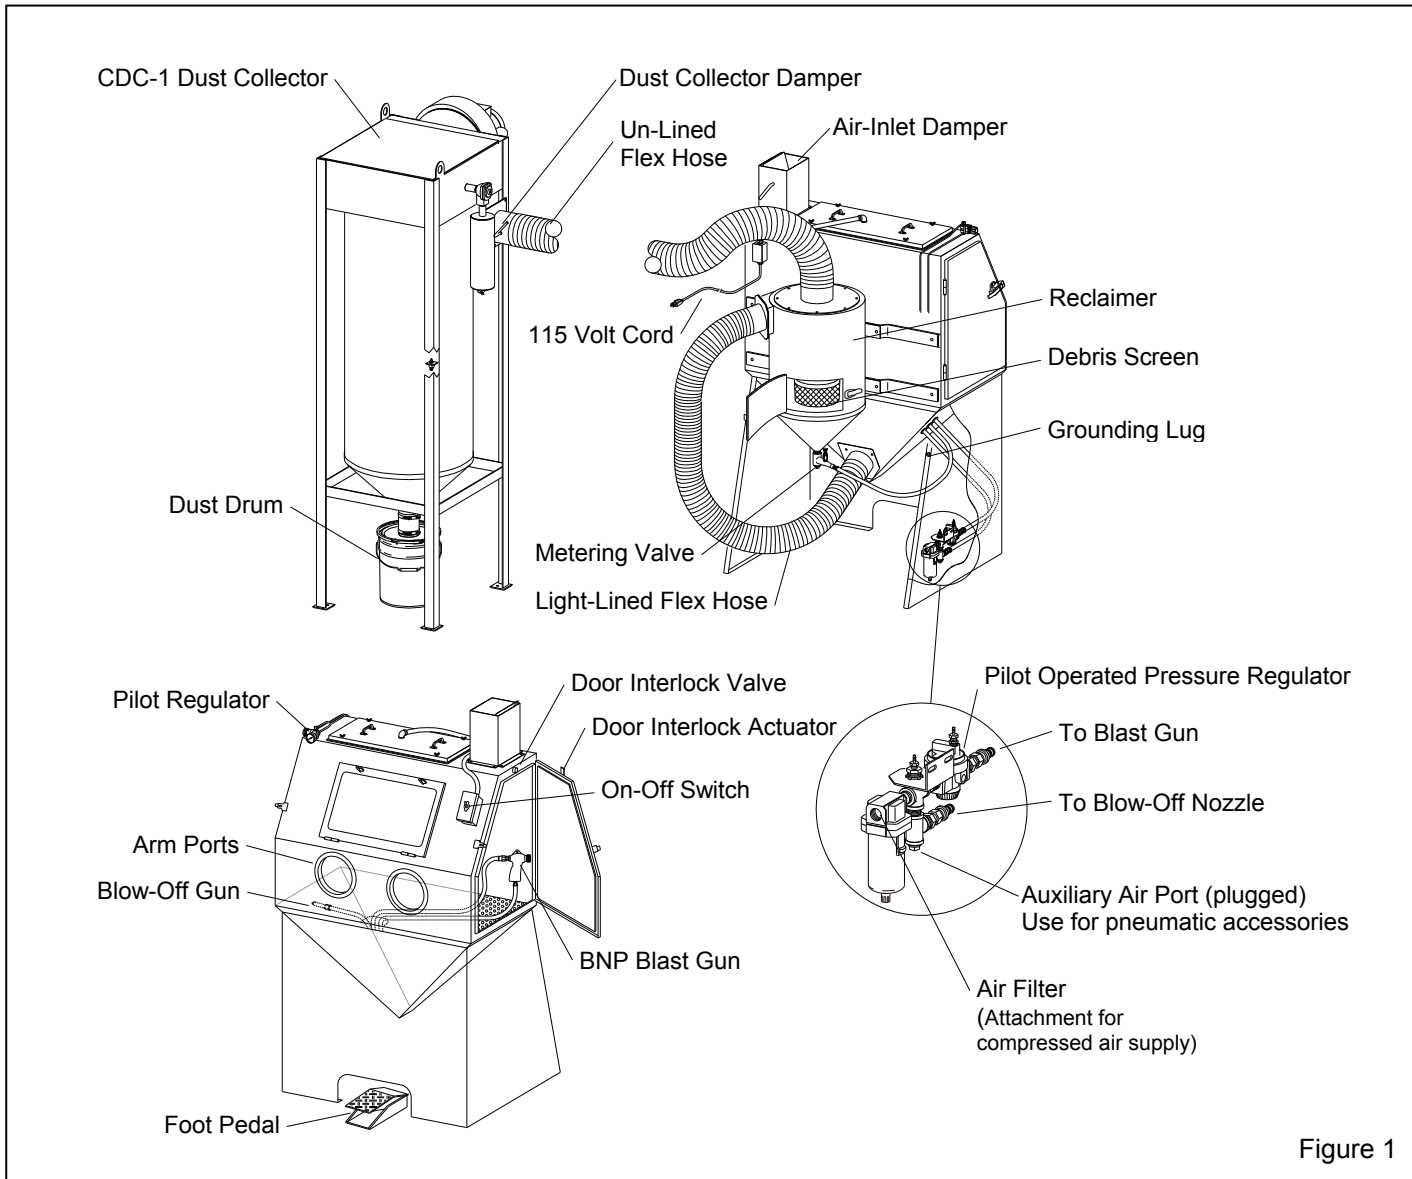
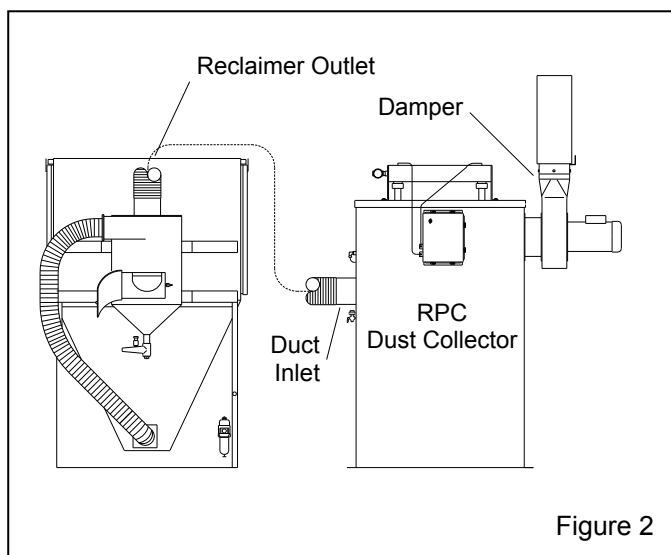

Figure 1
Figure 2
Refer to Figure 1 for arrangement of components with a CDC-1 dust collector. Figure 2 shows the arrangement with a RPC-2 600 cfm (not available in 300 cfm) reverse-pulse dust collector with dust drawer. The optional RPH-2 (600 cfm) is set up the same way as the RPC, but includes a hopper for additional dust storage, and empties into a drum. The overall height of the RPH is approximately 10-feet, 6-inches, and 12-ft when the top access door is open. An upgraded, RPC or RPH collector may be added at any time
1.5.1 CDC-1 Dust Collectors: Shown in Figure 1, the collector is available in 300 and 600 models. The single filter cartridge is cleaned by using a manually-controlled pulse of compressed air. CDC-1 dust collectors are standard with BNP cabinets unless an optional RPC-2 or RPH dust collector is ordered at time of purchase. Refer to manual number 28225 for operation of the CDC-1 dust collector.
1.5.2 RPC-2 Dust Collectors: Shown in Figure 2, this collector is available in a 600 cfm model. Dual filter cartridges are automatically cleaned by a timed, periodic pulse of compressed air. Dust collects in the draw and must be frequently emptied. Refer to manual number 22788 for operation of the RPC-2 dust collector.
1.5.3 RPH-2 Dust Collector: The RPH-2 is available for in a 600 cfm model. It is set up and operates the same as the RPC-2, as shown in Figure 2, but instead of a dust drawer, the collector sits atop a hopper, which provides additional dust storage, and empties into a drum. Refer to manual number 21449 for operation of the RPH dust collector.
2.1.1 Refer to Figure 1 (and Figure 2 for optional RPC-2 dust collector) for the general arrangement. Place all components in a convenient location where compressed air and electrical service are available. The cabinet location must comply with OSHA and local safety codes. Allow for full access to all doors and service areas, and for efficient handling of large parts. Provide enough clearance at the dust collector for maintenance and to remove the dust container. Determine the best location for all components and position them before making compressed air connections, electrical connections, and attaching flex hose.